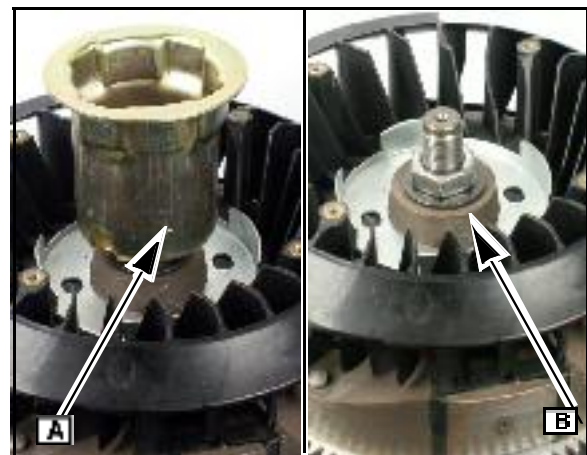

Fig. 46
1. Remove the nut and washer and starter cup ([A] Fig. 46).
2. Remove the second nut and washer ([B] Fig. 46).